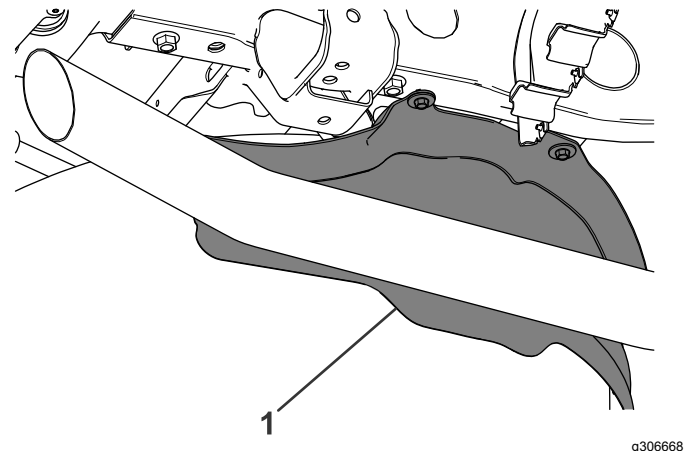

Figure 1
2. On the underside of the rear of the vehicle, remove the heat shield (Figure 1).
10. Install the previously removed heat shield (Figure 1).